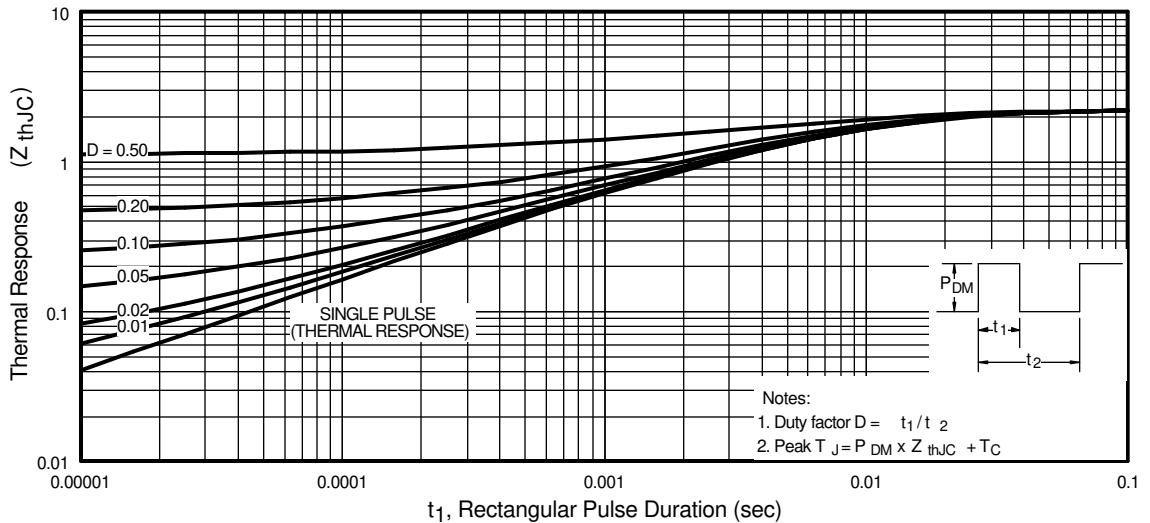

Fig 11. Maximum Effective Transient Thermal Impedance, Junction-to-Case
- ① Repetitive rating; pulse width limited by max. junction temperature. (See fig. 11)
- ② Starting $T_J = 25^\circ\text{C}, L = 590\mu\text{H}$